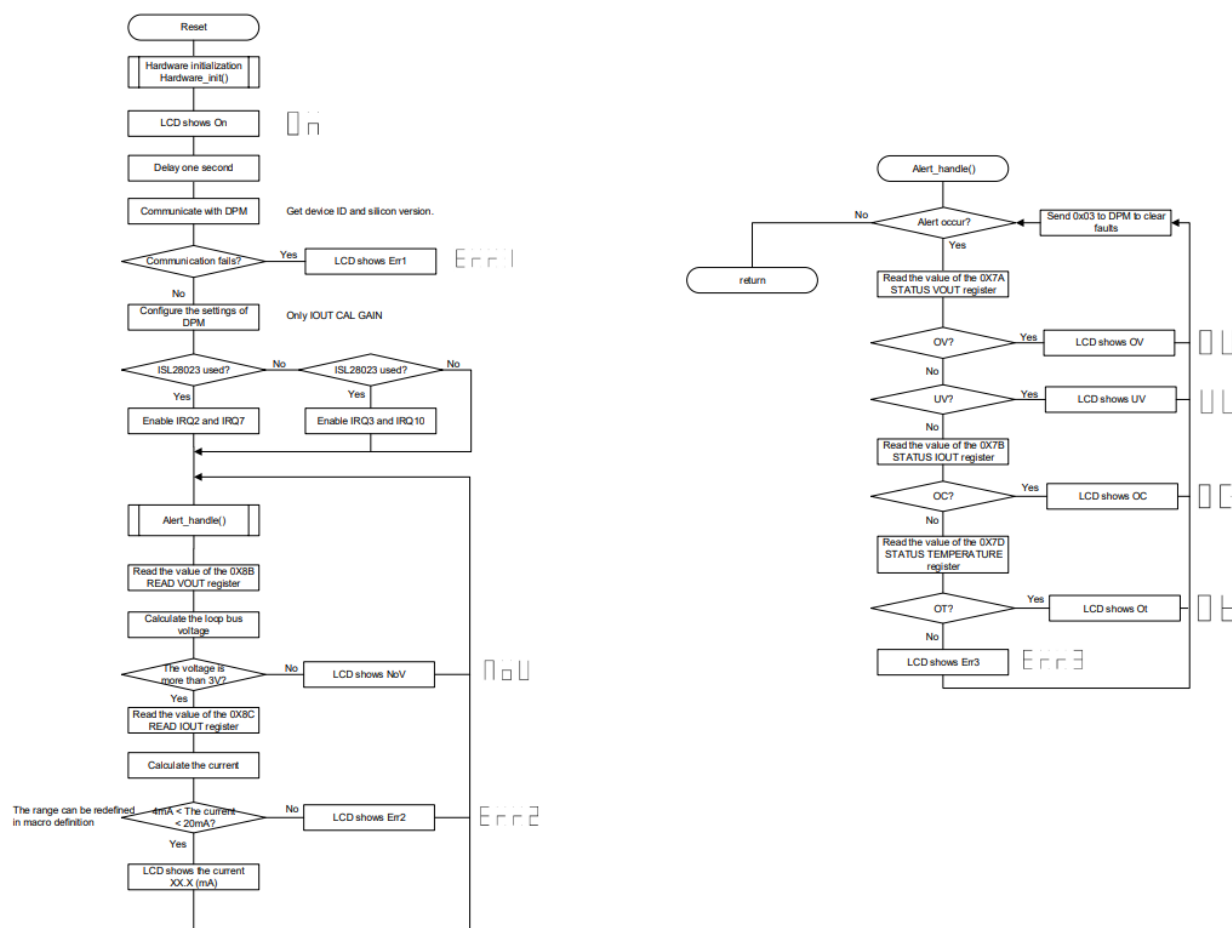

Figure 4. System State Machine
thresholds. If the voltage drops below 3V or the current is outside the valid range ($<4\text{mA}$), the corresponding error codes are shown (NoV, Err2). The Alert_handle() function monitors fault conditions by reading the status of the DPM status registers (0x7A, 0x7B, and 0x7D), and it updates the display to indicate overvoltage (OV), undervoltage (UV), overcurrent (OC), or over-temperature (OT). Unclassified faults result in an Err3 display to ensure robust fault diagnostics (see Figure 4).